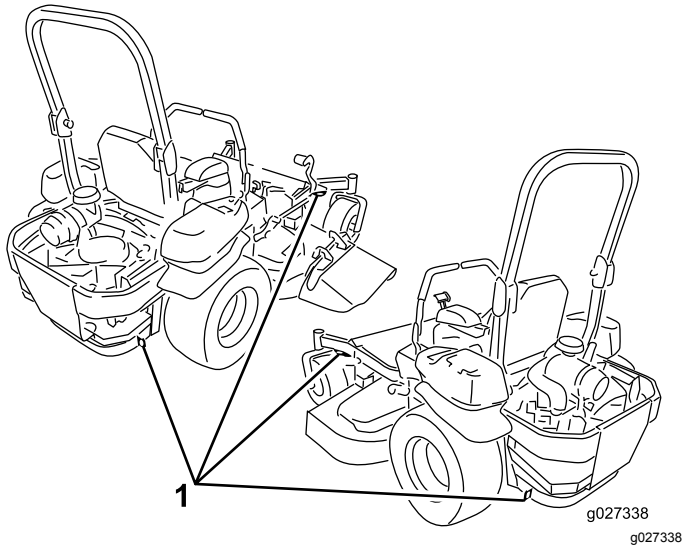

Figure 39
5. Use the tie-down loops on the machine to securely fasten it to the trailer or truck with straps, chains, cable, or ropes (Figure 39).